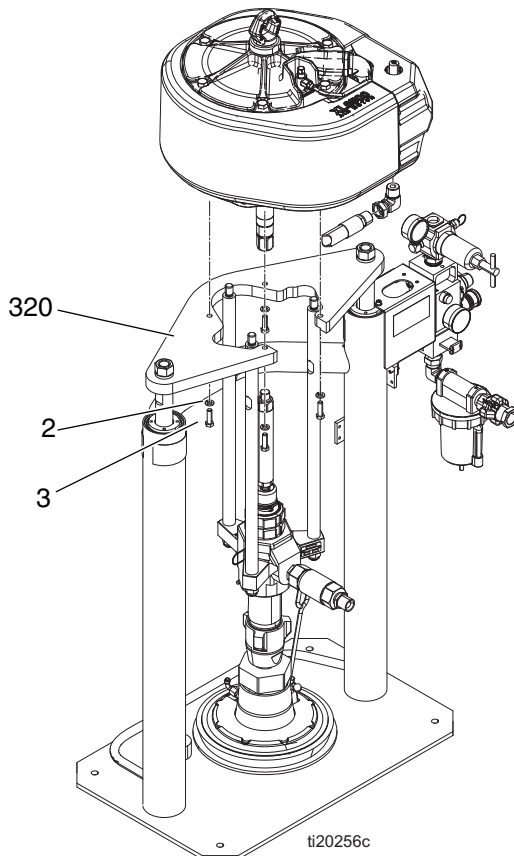

FIG. 17
1. Using a secure hoist, attach motor to mounting plate (320) with screws (3) and washers (2). See FIG. 17.
3. Connect air hose to air motor fitting (7). See page 22.